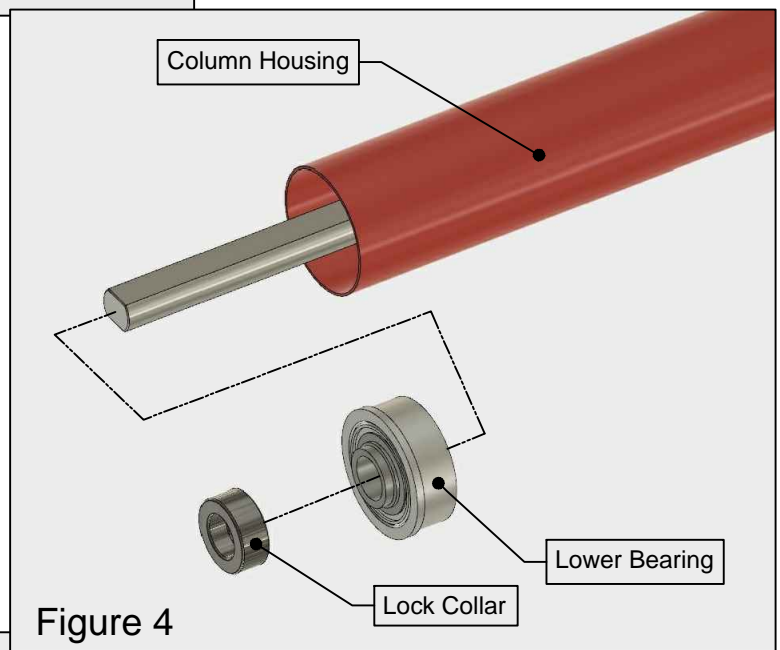

Figure 4
7. Slide the Lower Bearing onto the Center Shaft and up to the Column Housing. "Figure 4"